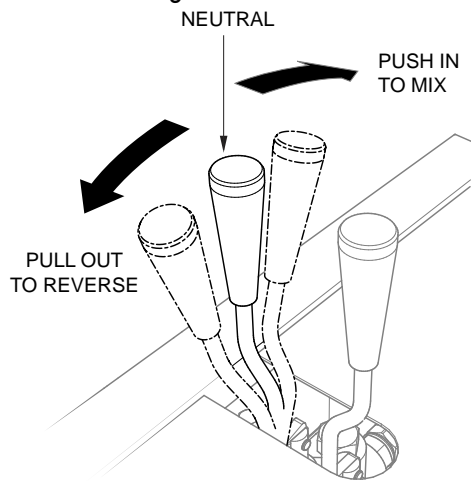

Figure 26. Hydraulic Paddle Lever
1. On the hydraulic valve, push lever inward (Figure 26) for clockwise mixing rotation of blades.